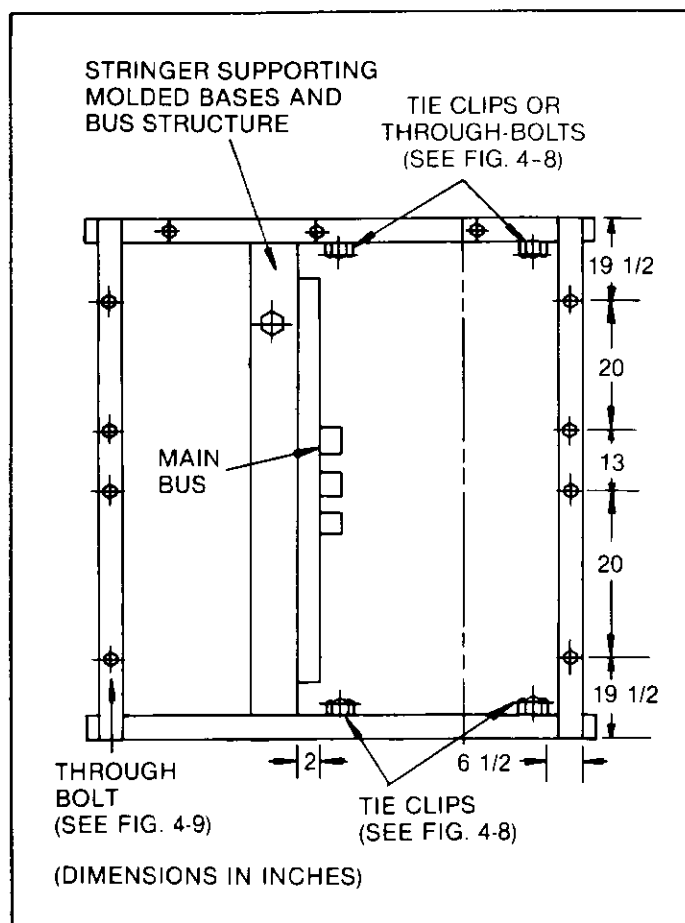

Fig. 4-7. Location of tie-clips
3. FASTEN SECTIONS TOGETHER—After placement of the equipment and installing the anchor bolts loosely, the various shipping sections must be rigidly fastened together. A combination of tie clips and through-bolts fasten each section of the switchgear equipment to the adjacent section. Figure 4-7 shows the location of the tie clips and through-bolts.